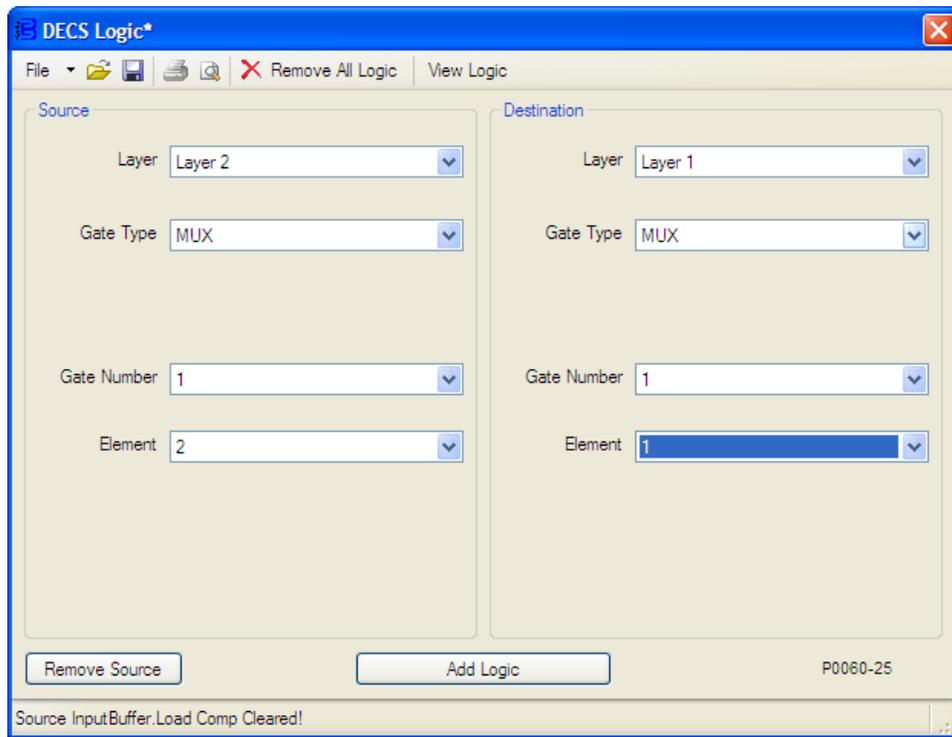

Figure 9-28. Layer2.Mux1.Output2 ---> Layer1.Mux1.Input
6. Figure 9-28 illustrates the DECS Logic window settings associated with this step.